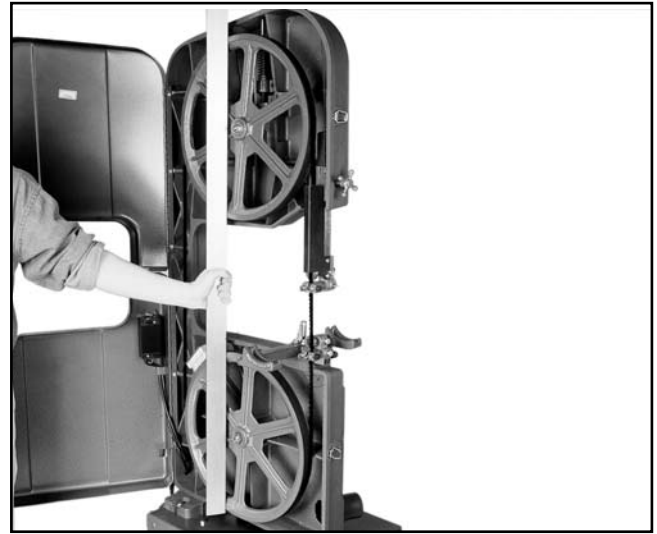

Figure 29. Holding a straightedge across both wheels.
1. With the blade on and properly tensioned, hold a straightedge close to the center of both wheels. Make sure it fully extends across them as in **Figure 29.**